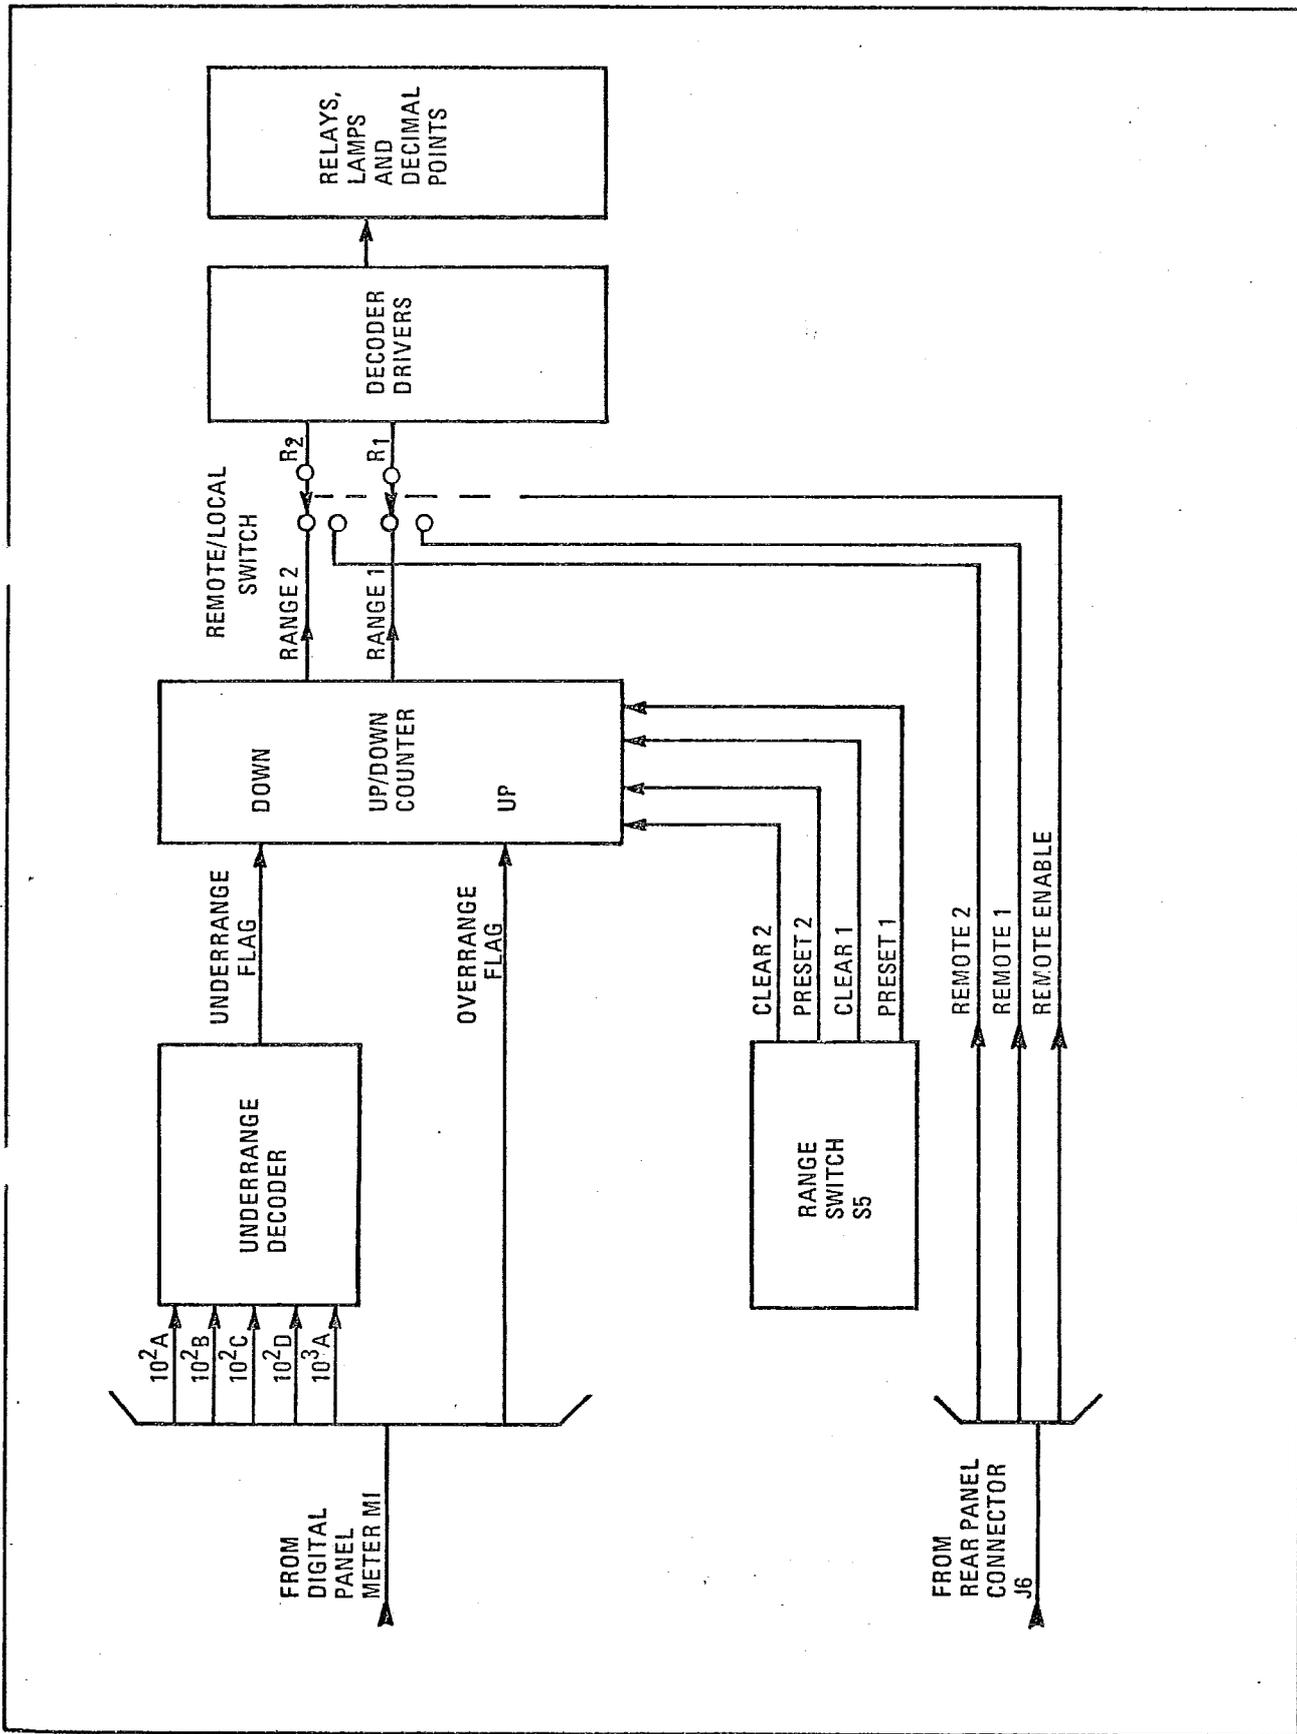

Figure 2. Up/Down Counter Block Diagram
37. **Introduction** (see Figure 2). Auto Range Assembly A6 comprises the logic circuitry and relays that set the power meter to its four basic ranges. The main control element is the up/down counter. The counter generates a range code that